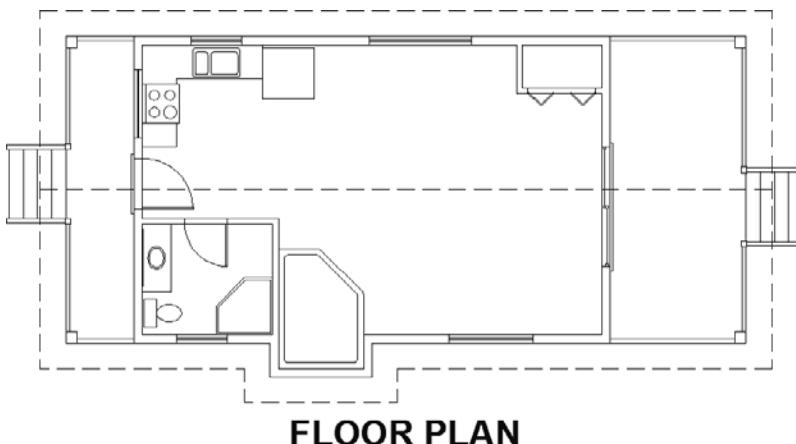

FIGURE 8.12 The drawing with the title complete
14. Erase the offset line and the vertical guideline. Your drawing will look like Figure 8.12.